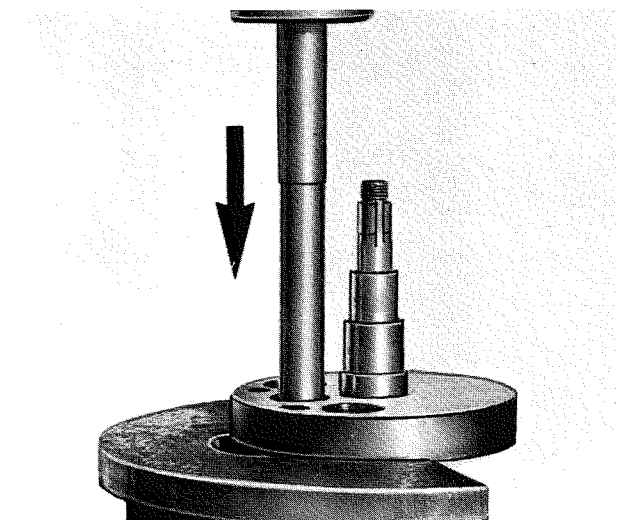

Fig. 3
2. Then press out the pin from the other crank disc in the same way. See fig 3.